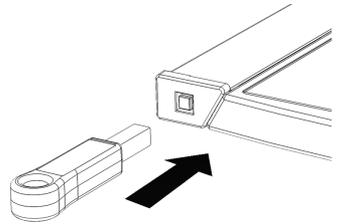

Figure 1. Insert the key into the keyhole to eject the carrier.
- a. Firmly press your DP27L key into the square keyhole on the left side of the frame to eject the carrier (see Figure 1).
- b. Firmly press your DP27 key into the square keyhole on the left side of the frame to eject the carrier (see Figure 1).